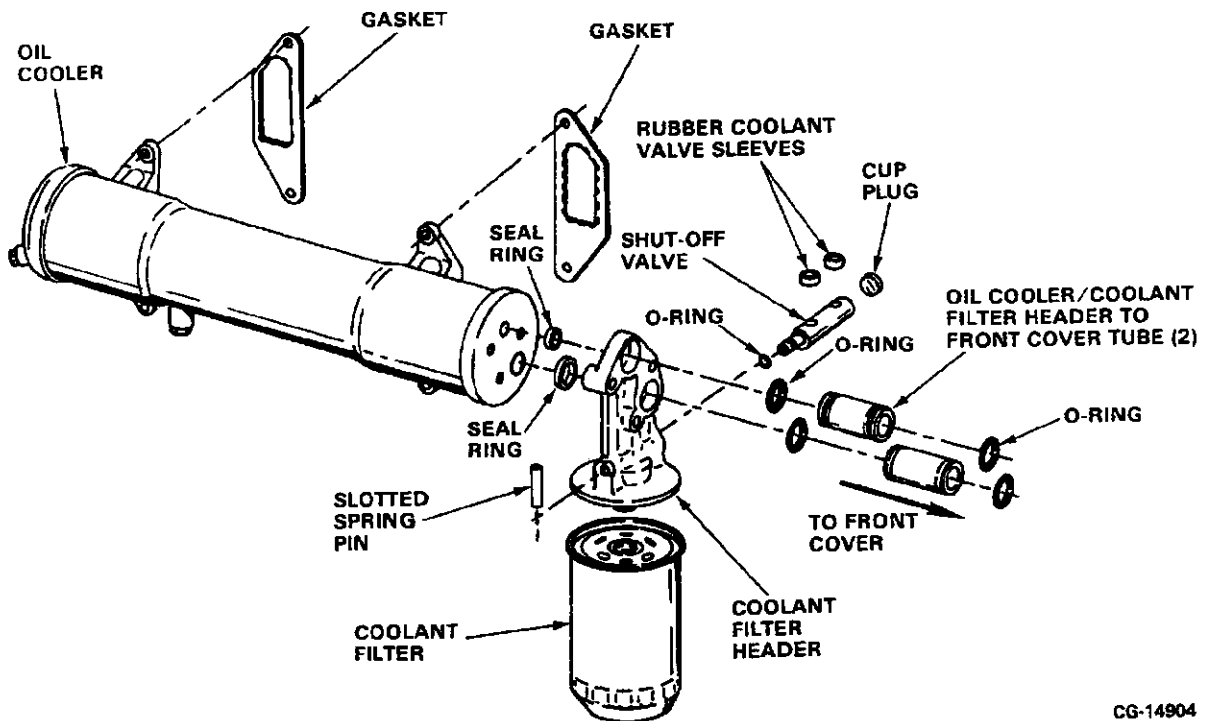

Figure 9.4. Oil Cooler Assembly
5. Remove the inner and outer rotors from the oil pump drive spline. Refer to **Figure 9.4**.